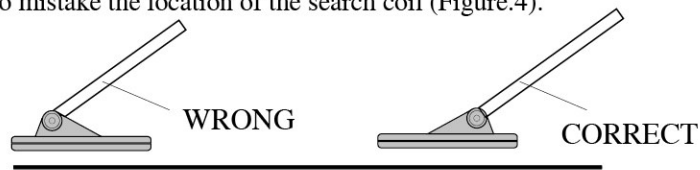

Figure.4
- Loosen the knobs at the search coil's end, then adjust the search coil to the desired angle, let the search coil be parallel with the ground. Be careful not to mistake the location of the search coil (Figure.4).